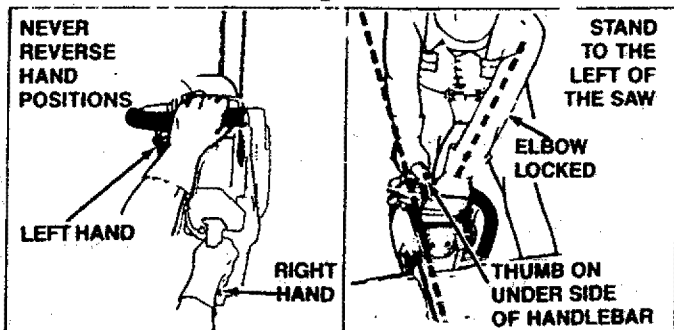

Figure 3
1. Keep a good firm grip on the saw with both hands when the engine is running and don't let go. Figure 3. A firm grip can neutralize kickback and help you maintain control of the saw. Keep the fingers of your left hand encircling and your left thumb under the front handlebar. Keep your right hand completely around the rear handle *whether you are right handed or left handed*. Keep your left arm straight with the elbow locked.
2. Position your left hand on the front handlebar so it is in a straight line with your right hand on the rear handle when making bucking cuts. Figure 3. Never reverse right and left hand positions for any type of cutting.
4. Stand slightly to the left side of the saw to keep your body and head from being in a direct line with the cutting chain. Figure 3.